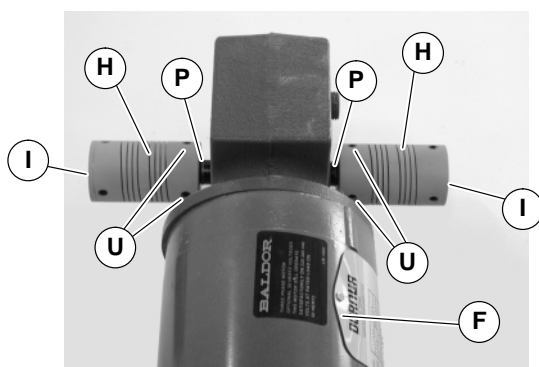

Figure 14
4. Install key (I of Figure 14) in gear reducer shaft (P).
5. Attach flex couplings (H of Figure 14) to gearmotor shaft (P). Tighten set screws (U).